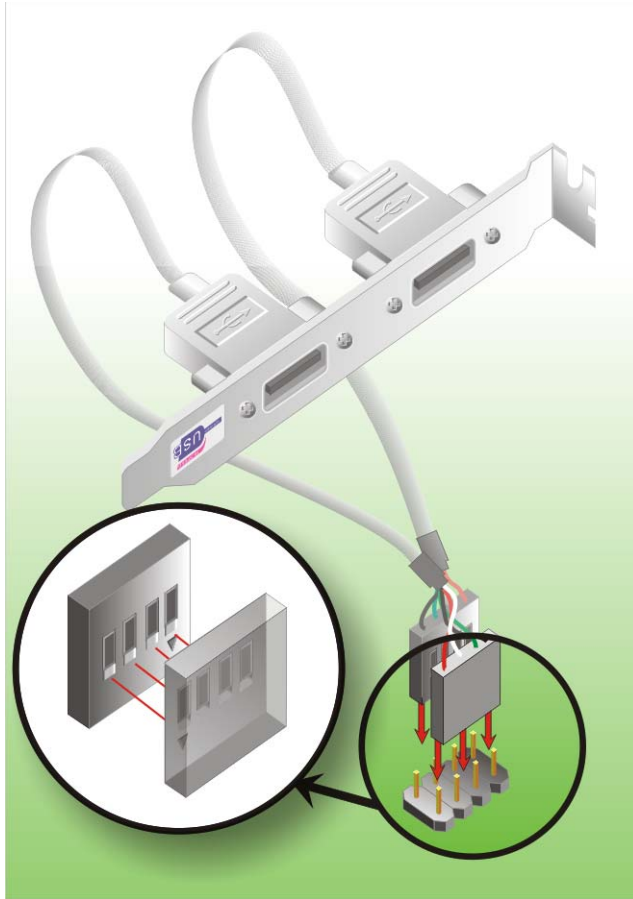

Figure 4-12: USB Cable Installation
Step 2: Insert the two 4-pin connectors from the module into the USB pin headers on the CPU card. (Figure 4-12)